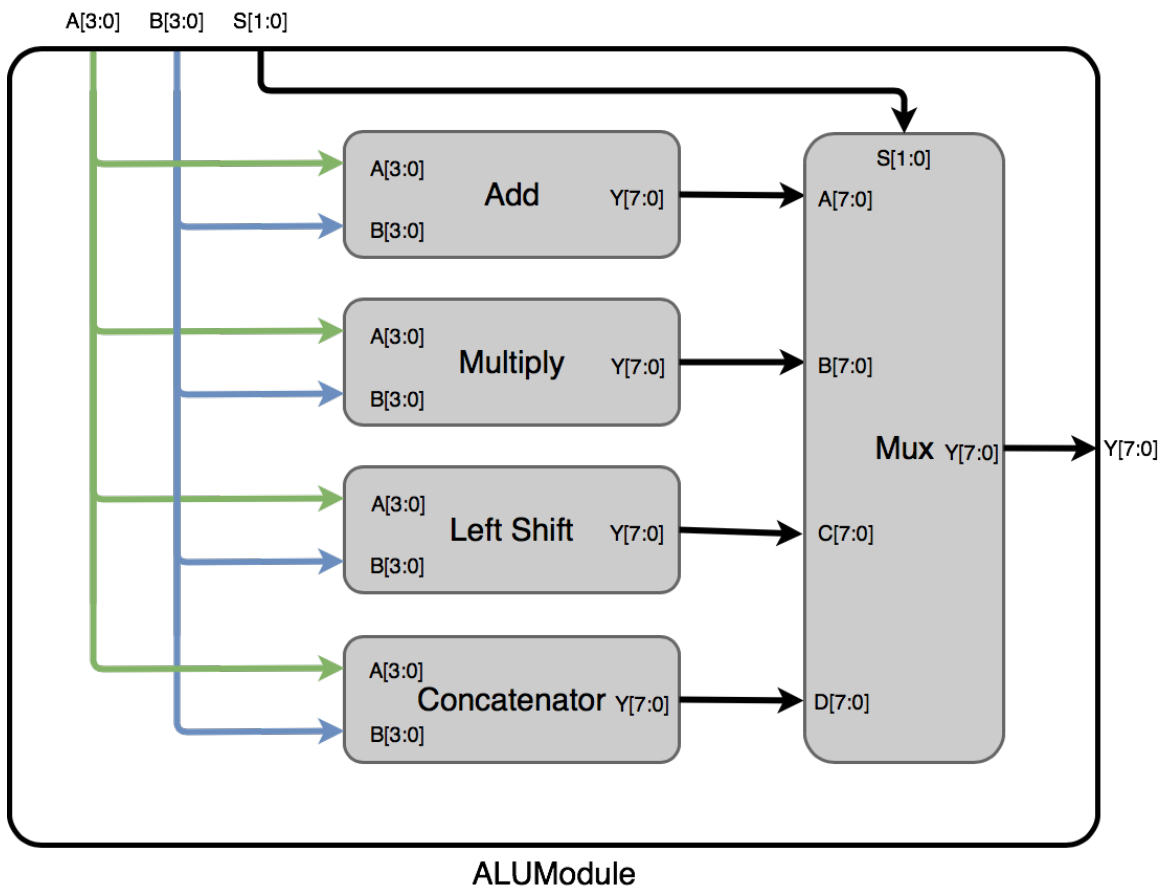

Figure 1: ALU block diagram.
5. **Multiplexer** - A multiplexer is a device that has N control inputs and 2^N data inputs. In Figure 1, the multiplexer is referred to as Mux, which has four 8-bit inputs (A, B, C, D), and one 2-bit control signal (S). Whenever $S = 2'b00$, the output $Y = A$; if $S = 2'b01$, then $Y = B$ and so on.